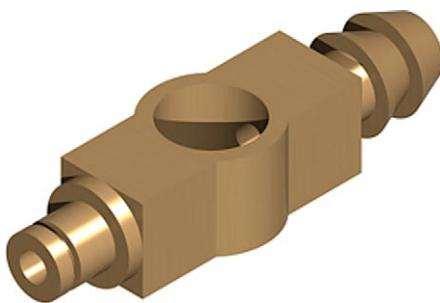

Fig. 18.16 Second example – 3D models
### Second example (Fig. 18.16)
5. **Isometric.** Render (Fig. 18.16).